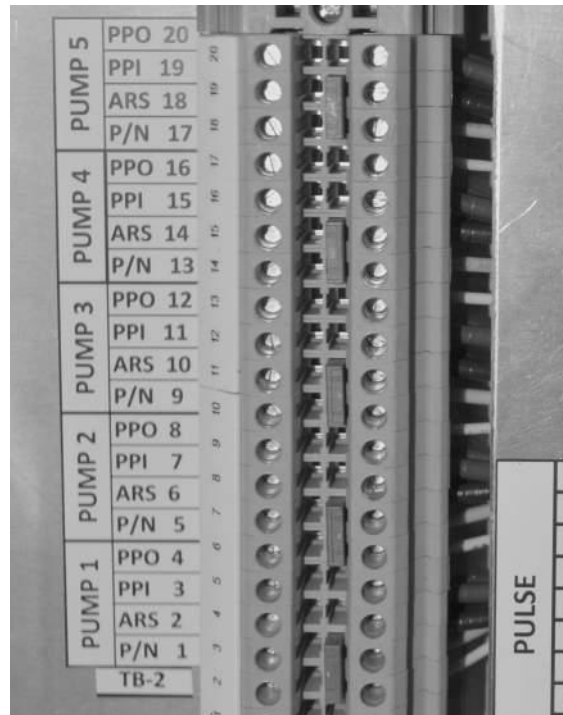

Figure 18. TB-2 FCT to Pump Control Interface
**NOTE:** In reference to Figure 18 above, the red jumper is inserted into the terminal block which connects a 120VAC ARS to PPI. A red jumper is installed across ARS and PPI for each individual pump. However, in certain FCT to pump interface applications, the red jumper must be removed in order to support electronic dispensers that provide a 120VAC for ARS but require a 12VDC PPI and PPO for an ESV that operates at 12VDC.
1. Connect the white wire P/N from Pump 1 to TB-2 P/N position 1 at the FCT (as shown in Figure 18).